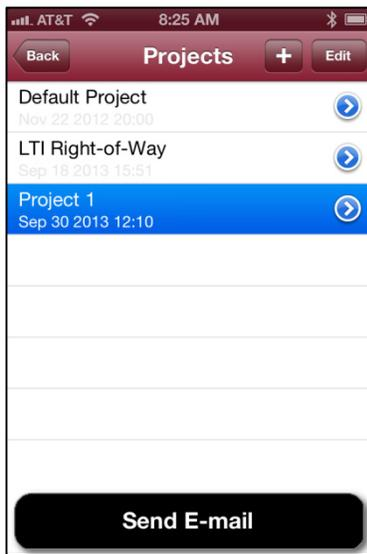

Figure 44
2. Tap to open the project that houses the shot to be deleted (Figure 44).